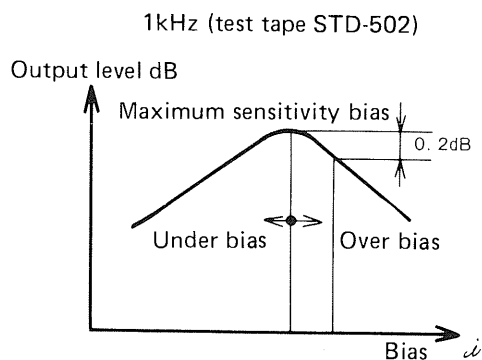

Fig. 32
3. While simultaneously recording and playing back with test tape STD-502, turn the bias adjustment semifixed resistors VR₃₀₃ (L ch), VR₃₀₄ (R ch) clockwise from minimum value to maximum value and adjust to the point at which the playback level drops 0.2dB past the maximum value. (Fig. 32).
4. Since the adjustments of item 3 effect each other, repeat adjustment several times.